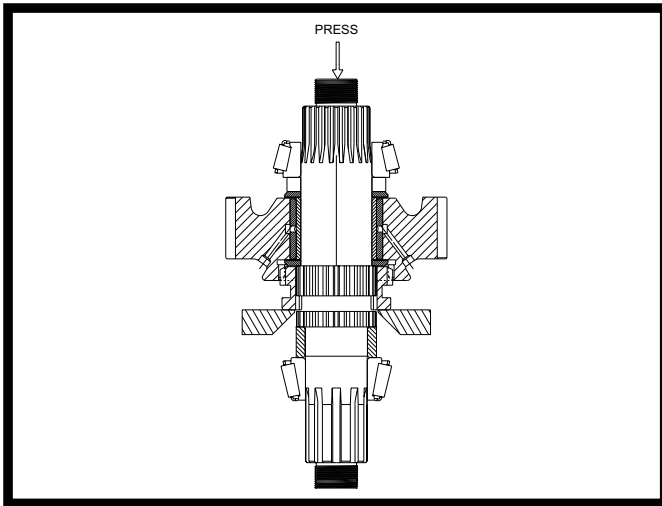

Fig 26
- Engage the sliding clutch gear into the larger gear and position the assembly in a press such that the exposed face of the clutch gear is supporting and the press arbor bears against the opposite end of the shaft. See Figure 26. Remove the (3) bearing cone assemblies, the gear, the clutch gear, and the various spacers.